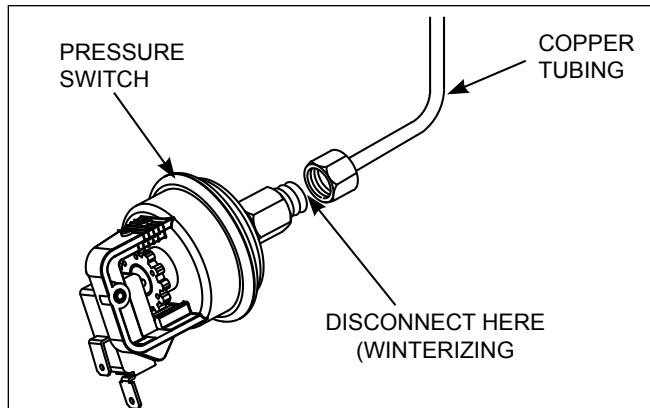

Figure 22. Pressure Switch Copper Tubing
8. Disconnect the pressure switch from the copper tubing. See Figure 22.
1. Attach the copper tubing to the pressure switch. See Figure 22.